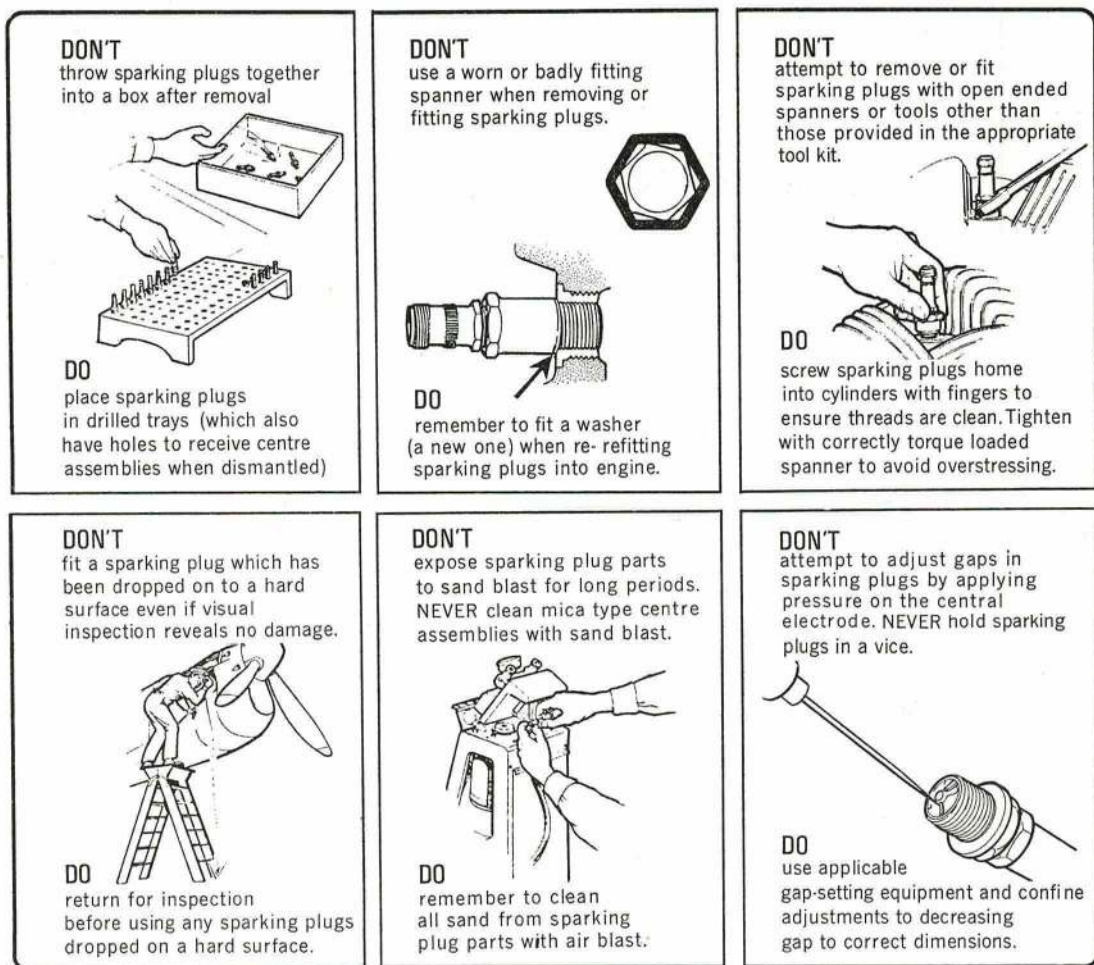

Fig 1.8.12 'Do's' and 'Don't's' regarding sparking plug maintenance
41. Some 'do's' and 'don't's' regarding sparking plug maintenance are illustrated at Fig 1.8.12.